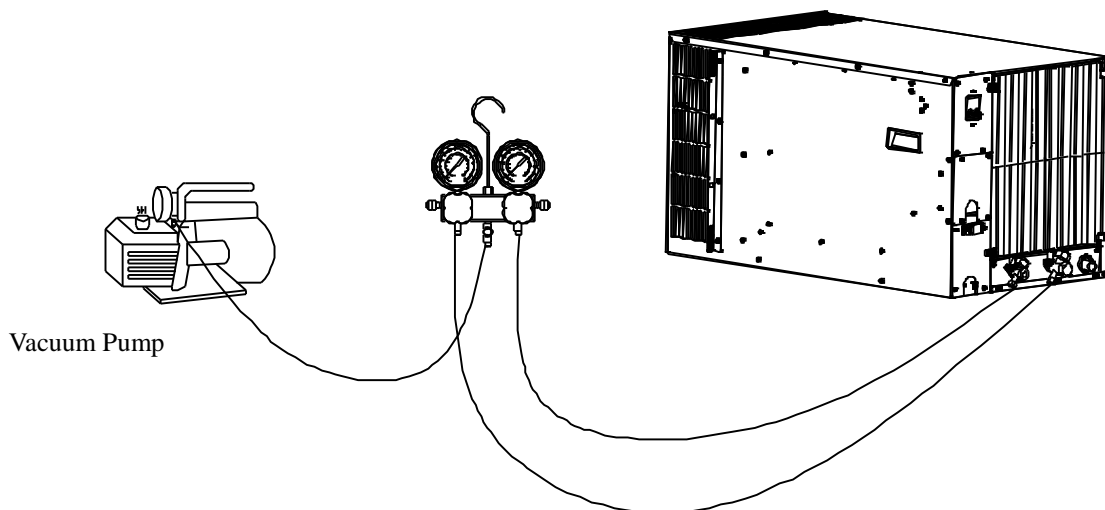

Figure 5-2 Schematic diagram of vacuum operation
6. After vacuuming, close all valves of the pressure gauge first, and then close the vacuum pump. There is no need to remove the connection. Keep the pressure for 10 minutes. The pressure of the refrigeration system should not exceed 90pa (absolute pressure). Refer to Figure 5-2 for operation.